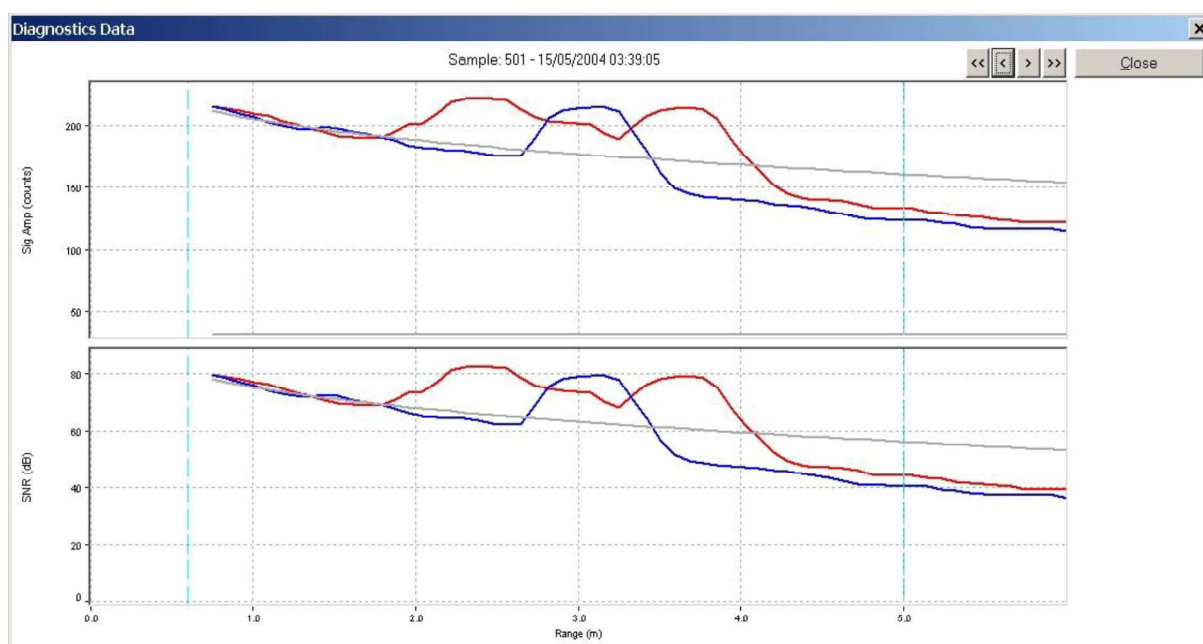

Figure 6-9. Sample Data File 2(SLDemo2.arg) – Signal Amplitude and SNR Diagnostic Data
To gain insight into the variations in SNR and jumps in stage, we look at the internal diagnostic data from this file. **Figure 6-9** plots the diagnostic data from one sample (501).
- The light blue, dashed vertical lines in **Figure 6-9** show Cell Begin and Cell End.
- **Figure 6-9** has been zoomed-in to show a range of 0 to 6 meters.